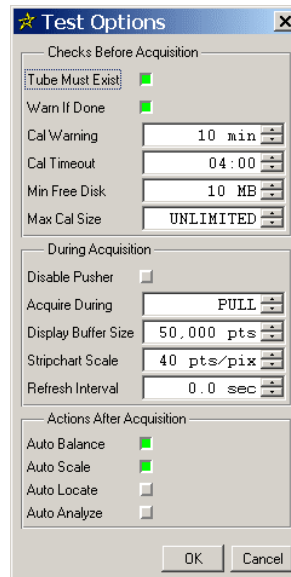

Figure 10-5. Test Options Dialog
STEP 16: The *Test Options* dialog should now look like Figure 10-5. Click **OK**.